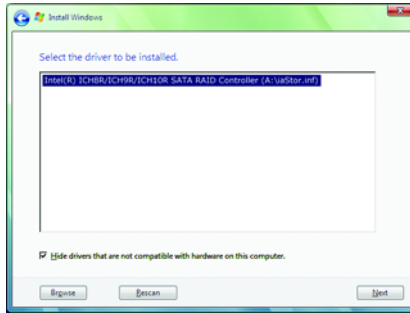

Figure 5
When a screen as shown in Figure 5 appears, select **Intel(R) ICH8R/ICH9R/ICH10R/DO SATA RAID Controller** and click **Next**.